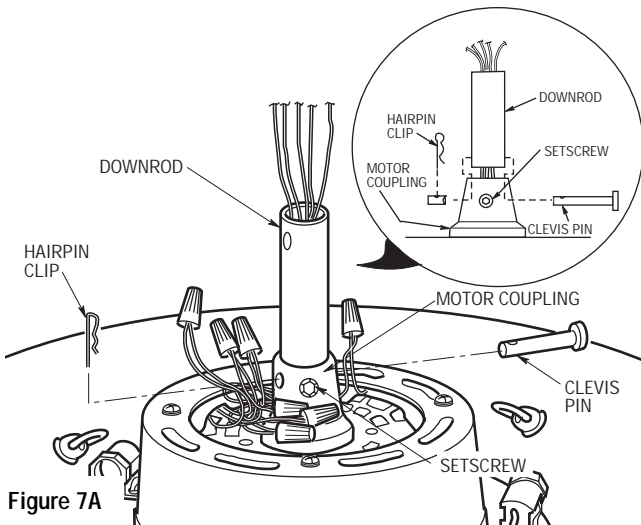

Figure 7A
- 12. Align the clevis pin holes in the downrod with the holes in the motor coupling. Install the clevis pin and secure with the hairpin clip. The clevis pin must go through the holes in the motor coupling and the holes in the downrod (Figure 7A). Push the straight leg of the hairpin clip through the hole near the end of the clevis pin until the curved portion of the hairpin clip snaps around the clevis pin. The hairpin clip must be properly installed to prevent the clevis pin from working loose.
- 13. Install the setscrew (supplied) in the motor coupling and tighten using the 5/32" setscrew wrench (supplied) (Figure 7A).